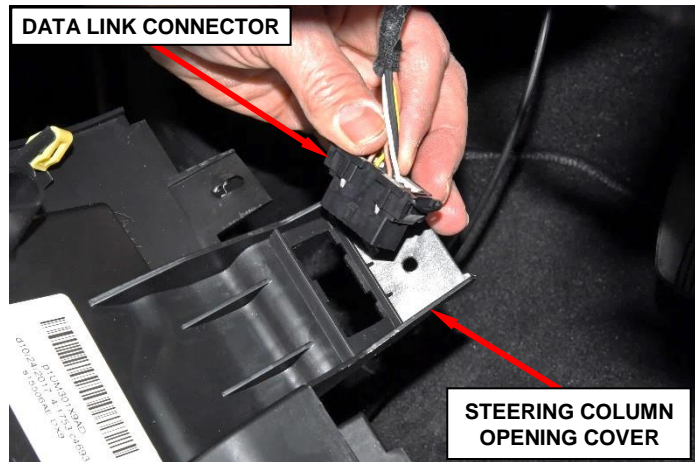

Figure 4 – Data Link Connector
- Remove the data link connector from the steering column opening cover by pressing in the tabs and pushing the connector through the opening on the back side of the cover (Figure 4).
42. Install the data link connector to the steering column opening cover by pushing the connector through the opening on the back side of the cover and fully engaging the lock tabs of the connector (Figure 4).